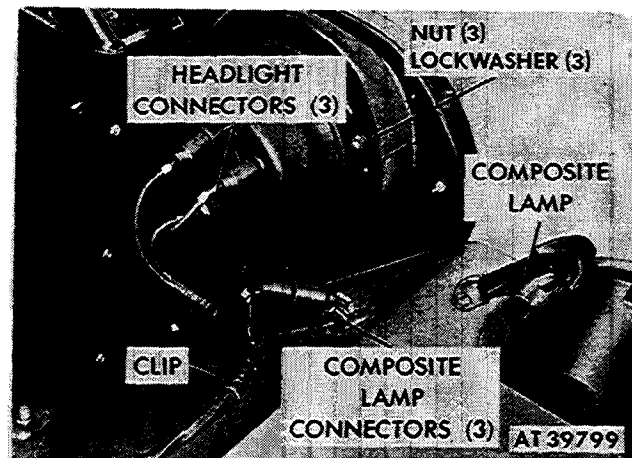

Figure 2-193. Remove headlight from brush guard.
(1) Disconnect electrical connectors (fig. 2-193).
(2) Remove three nuts and lockwashers securing headlight assembly to brush guard. Remove headlight assembly (fig. 2-193).
(1) Disconnect three connectors at the front composite light assembly (fig. 2-193).
(2) Reach to underside of front fender and